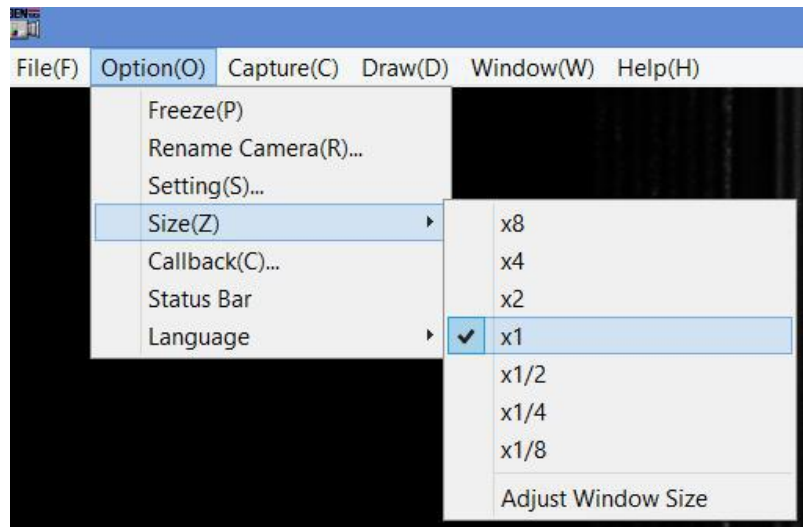

Figure 39 StcamSware GUI
37. Go to StCamSware; go to Option -> Size, Select “x 1” as below Figure 39.